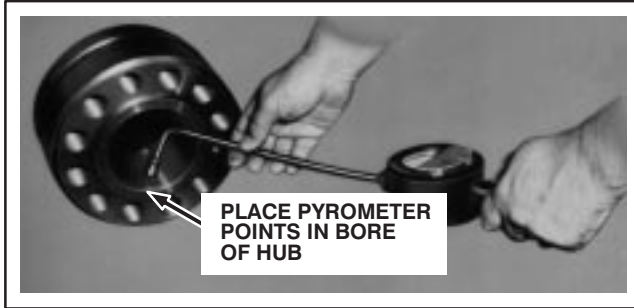

FIG. 9. MEASURING TEMPERATURE OF COUPLING HUB WITH PYROMETER. E-5976
6. Check the “hot” or shrunk-on position of the hub on the shaft. The advance from “cold” to “hot” position along axis of the shaft must be held within the limits indicated. Check the actual advance with an indicator gage, located in the same relative position as used to measure the “cold” position in item 3 (See FIG. 9.).